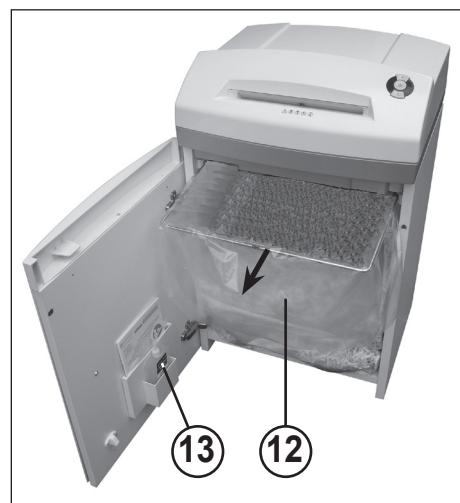

fig. 4
12 = Paper collection bag (Fig. 4)
13 = Oil reservoir (Fig. 4)
EMPTYING THE PAPER COLLECTION BAG (Fig. 4):
Cross cut cutters must be oiled after a specific operating time. If the control display  (7) comes on proceed as follows: Open the door. The control display  (8) comes on and the reverse button (4) LED display  as well as the control display  (7) **flashes**. Remove the oil reservoir (13) (Fig. 4) from the holder in the door and close the door again.